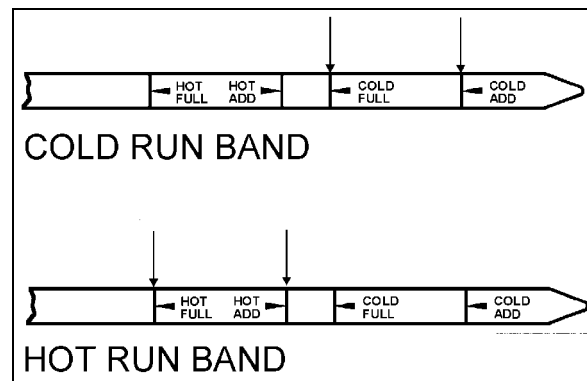

FIGURE 3: DIPSTICK
2. Run the engine for at least one minute. Shift to Drive (D) and then to Reverse (R) to clear the hydraulic circuits of air. Then shift to Neutral (N) and allow the engine to idle (500 - 800 rpm).
3. While the engine is running, remove the dipstick from the tube and wipe it clean (a typical dipstick is shown in Fig. 3).
The safe operating level is anywhere within the "HOT RUN" band on the dipstick. (Typical dipsticks are shown in Figure 3).